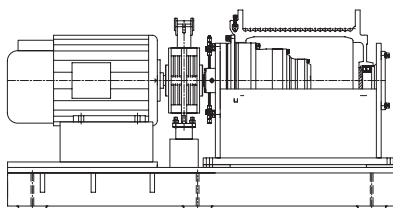
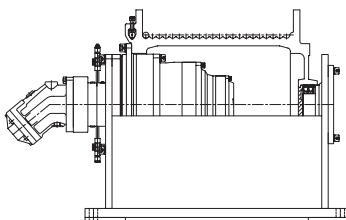

Figure 3
Figure 4
Following assemble instructions include the hydraulic motor drive winch gear units, motor drive winch gear units and no any drive gear units. Customer assembles your gear units as following figure 3 and figure 4.
- 1.Lift the hydraulic motor and fix it on the hoisting tools (hoist or crane). Transfer it to the input part of winch gear unit according figure 4